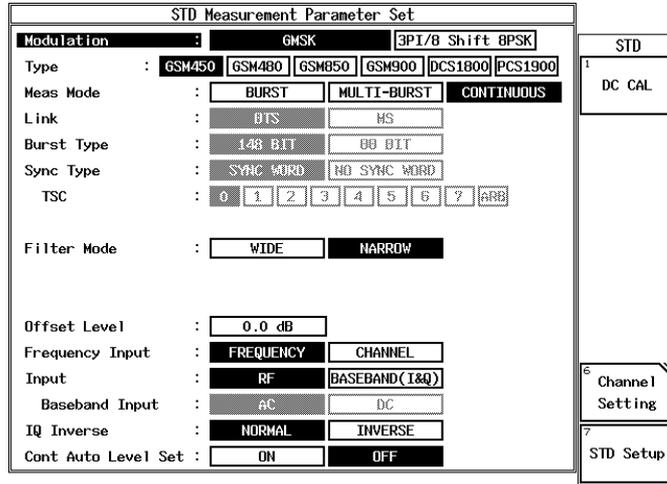

Figure 6-2 Setting of STD Parameter for Phase Error Accuracy Measurement (GSM)
- On the R3267 Series, set the STD parameter as shown Figure 6-2.